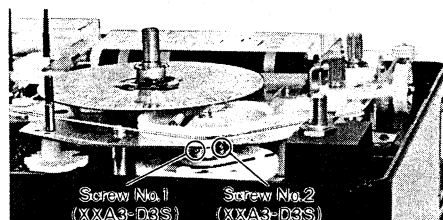

Fig. 4
4. Turn the tuning shaft to clockwise and set the two (2) screws at the position, as shown in fig. 4.
5. Loosen the one (1) screw (no. 2) for the variable capacitor shaft, as shown in fig. 4.
7. Loosen the one (1) screw (no. 1) for the variable capacitor shaft, as shown in fig. 4.